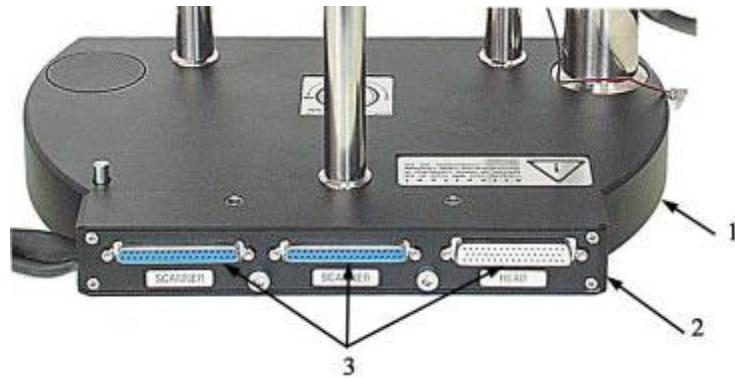

Fig. 1-9 Switching unit
1. Use the cable to connect the approach unit and the measuring head to the switching unit (see Fig. 1-9) observing the connector labels.